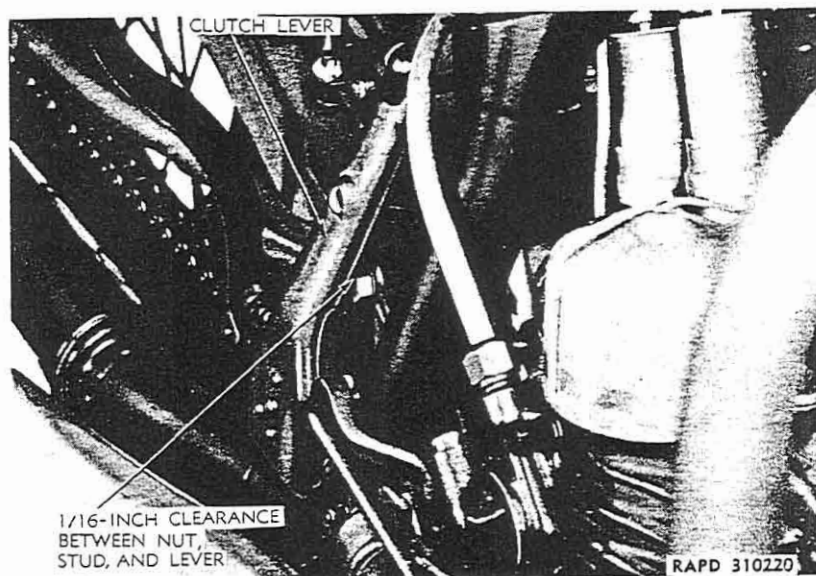

Figure 23—Clutch Lever and Stud Nut Clearance
c. **Clutch Control Adjustment** (figs. 23, 24, 25, and 26).
(1) **ADJUSTING CABLE LENGTH.** With clutch in fully disengaged position (foot pedal heel down) the clutch release lever must clear the countershaft sprocket cover stud and/or nut by $\frac{1}{16}$ inch. Should clutch release lever strike sprocket cover and nut, clutch push rod movement is restricted, and clutch cannot be fully disengaged. Length of control cable must be adjusted to obtain $\frac{1}{16}$ -inch clutch release lever and sprocket cover stud and/or nut clearance. To lengthen or shorten clutch control cable, cable adjustable end must be removed from foot pedal stud (figs. 23 and 24). With foot pedal in forward (toe down) position, remove cotter pin and washer retaining cable end. Release other end of cable from notch in clutch release lever by pressing release lever inward and lifting cable end out of notch. Rock the foot pedal to rear (heel down) position and work cable adjustable end off foot pedal stud. Loosen lock nut and turn cable end to right (clockwise) to shorten cable; turn to left (counter-